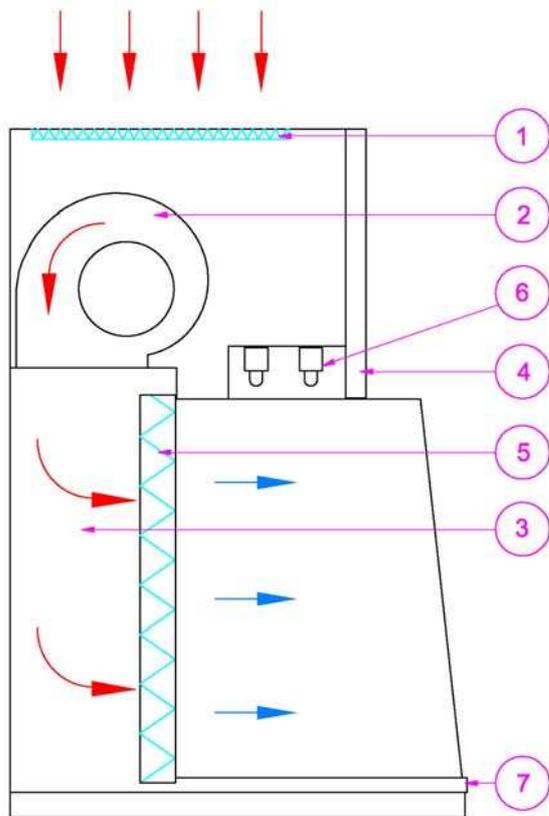
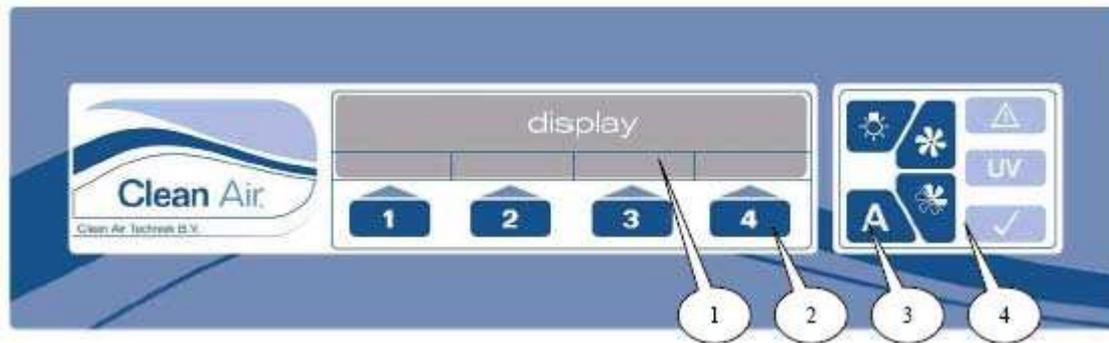
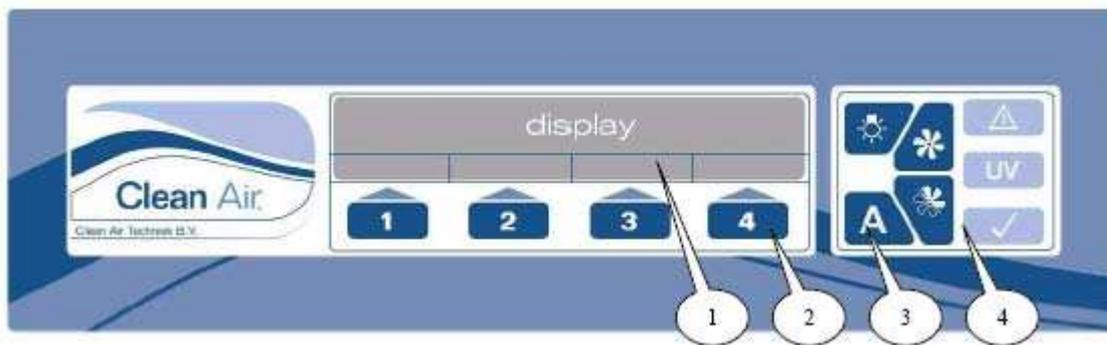

Figure 2 Sectional view CLF
Figure 3: Operating panel
Figure 4 Display Interface
Behind the front panel (Figure 2, Pos 4) a number of electrical components are mounted.
The workroom contains a white laminated wooden or stainless steel (304) worktop (Figure 2, Pos 7).
The plenum-construction (Figure 2, Pos 3) equalizes the air through the crossflow filter.
The crossflow HEPA-filter\* (Figure 2, Pos 5) has a very high efficiency: Class H14 in accordance with EN1822. After assembling, each filter will be tested separately. Through the service panel on the back the crossflow filter can be reached.
The pre-filter (Figure 2, Pos 1) is a filter in the class G3 accordance with EN779. Furthermore the pre-filter will enhance the life span of the HEPA-filter significantly.
The electronics (Figure 2, Pos 4) consists of:
The operating panel (Figure 3, Figure 2, Pos 4) consist of:
The Fluorescent-Lighting (Figure 2, Pos 6) is mounted in the Light unit.
The electric driven double suction fan (Figure 2, Pos 2) is maintenance-free.
The operating panel (Figure 3 and Figure 4) consists of: